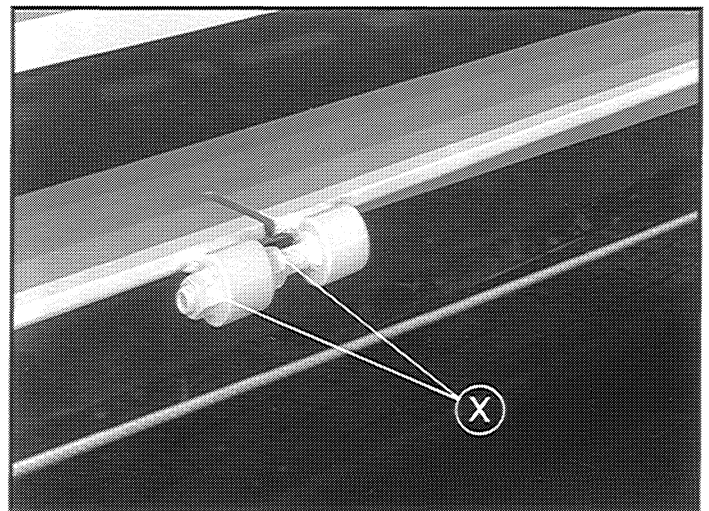

FIGURE 9-26 - Backgage angle adjustment
- 8. The backgage angle is set straight or hollow by adjusting bolt(s) "X", Figure 9-26. There will be one or two adjustments depending on the length of the shear. (**135 Series x 6** has no adjustment).